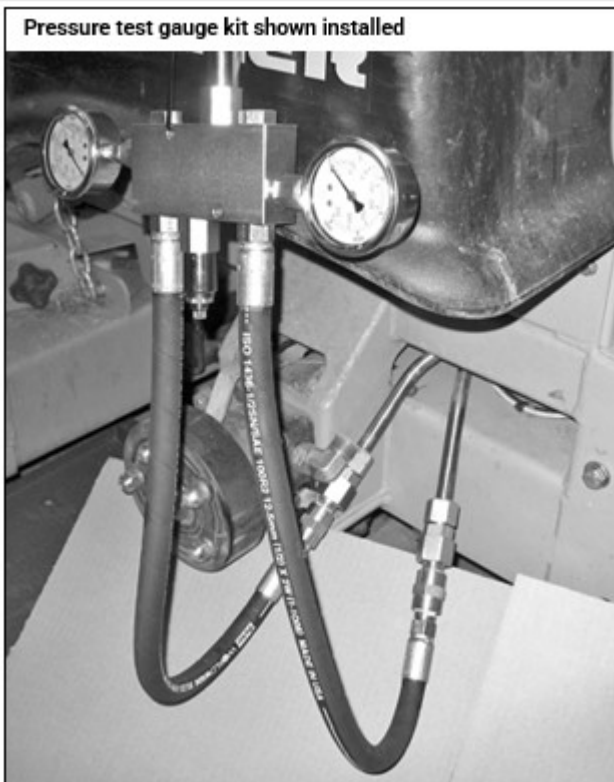
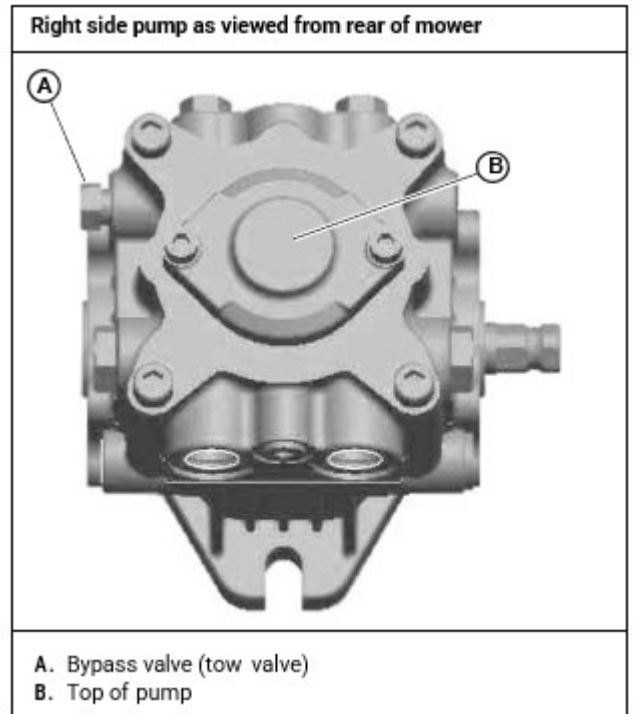

Figure 19
Figure 20
9. Install Hustler® Pressure Test Gauge Kit as shown in Figure 19. Check the bypass valve (tow valve) to make sure it is fully seated. [Figure 20]